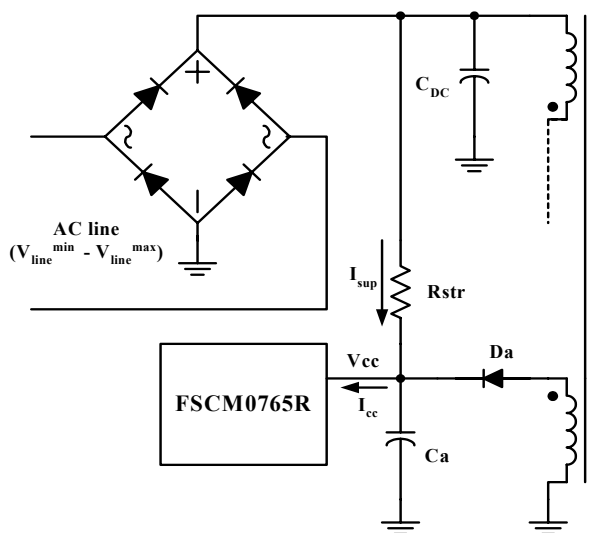
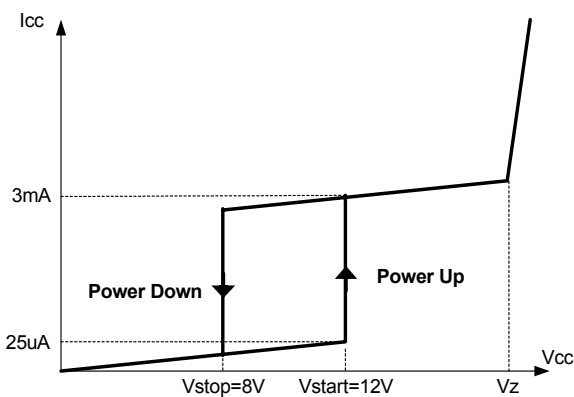

Figure 4. Startup circuit
Figure 5. Relation between operating supply current and Vcc voltage
**1. Startup :** Figure 4 shows the typical startup circuit and transformer auxiliary winding for FSCM0765R application. Before FSCM0765R begins switching, FSCM0765R consumes only startup current (typically 25uA) and the current supplied from the DC link supply current consumed by FPS ( $I_{cc}$ ) and charges the external capacitor ( $C_a$ ) that is connected to the Vcc pin. When Vcc reaches start voltage of 12V ( $V_{START}$ ), FSCM0765R begins switching, and the current consumed by FSCM0765R increases to 3mA. Then, FSCM0765R continues its normal switching operation and the power required for this device is supplied from the transformer auxiliary winding, unless Vcc drops below the stop voltage of 8V ( $V_{STOP}$ ). To guarantee the stable operation of the control IC, Vcc has under voltage lockout (UVLO) with 4V hysteresis. Figure 5 shows the relation between the current consumed by FPS ( $I_{cc}$ ) and the supply voltage (Vcc).